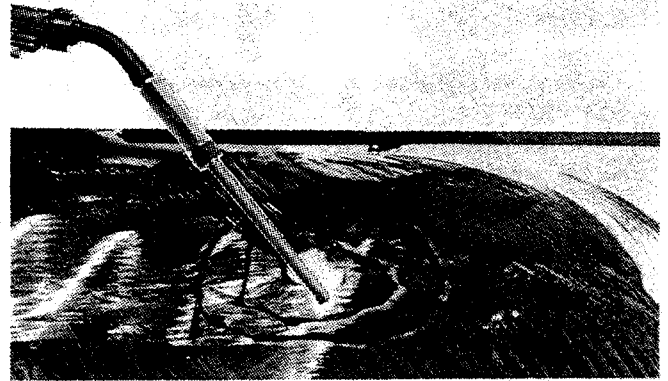

Figure 35
4. Working in a circular pattern, work your way to the center of the damaged area in a slow, steady motion. Stop when the area starts to turn in color. (See Figure 35). Do not exceed the continuous two minute duty cycle, overheating of the unit may occur.